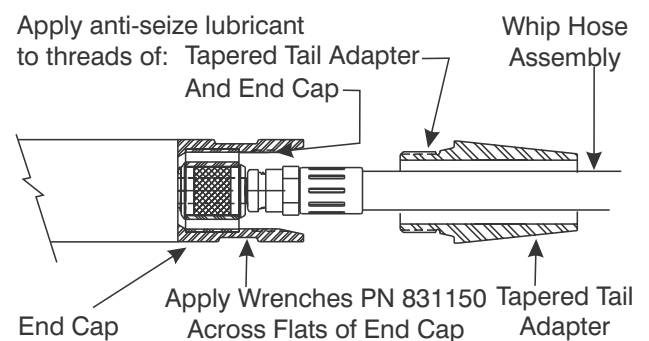

Figure 11-29. End Cap and Tail Adapter
2. Apply a light coat of Anti-Seize lubricant to the external threads of the Tapered Tail Adapter (13) and the internal threads of the End Cap (8), as shown in Figure 11-29.